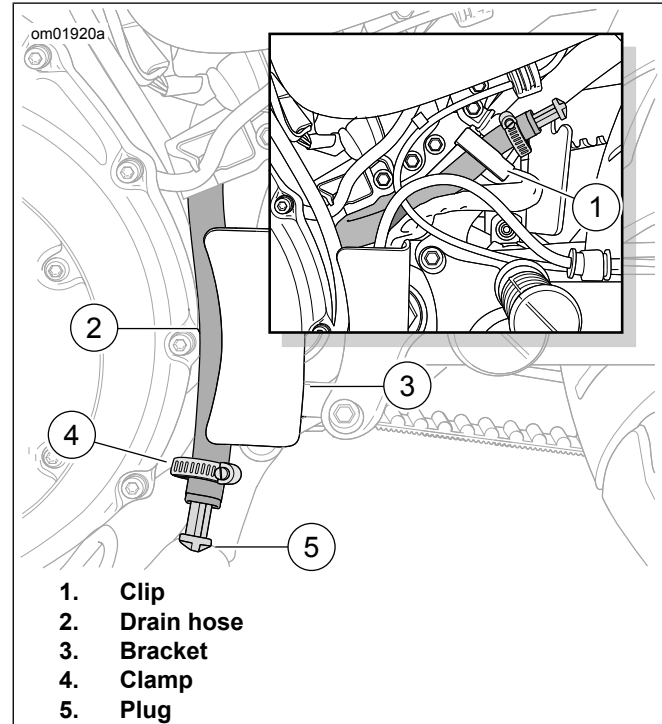

Figure 42. Drain Hose
4. See Figure 42. Pull clip (1) from frame tube.
5. Direct drain hose (2) in front of bracket (3) into drain pan.
6. Loosen clamp (4). Remove plug (5) from end of hose.